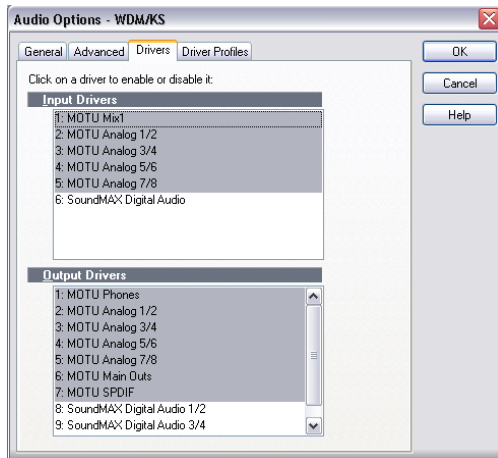

Figure 8-2: Activating the MOTU Audio WDM driver in SONAR by highlighting UltraLite inputs and outputs.
- 3 Highlight the UltraLite inputs and outputs that you wish to use and unhighlight the ones you don't as shown in Figure 8-2.